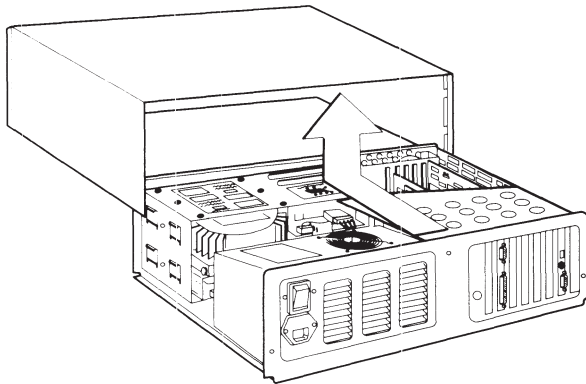

Figure 7-9. Removing the System Unit Cover.
5. Lift the cover straight up and off of the system unit (Figure 7-9).